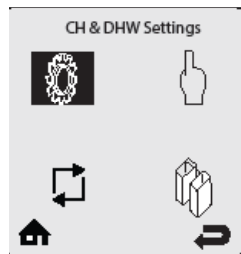

Fig. 6: CH & DHW Settings
13. If the combustion levels during high fire are outside the recommended combustion settings (see Table 1), adjust the THROTTLE SCREW (see Fig. 6) using a flat-blade screwdriver as follows: